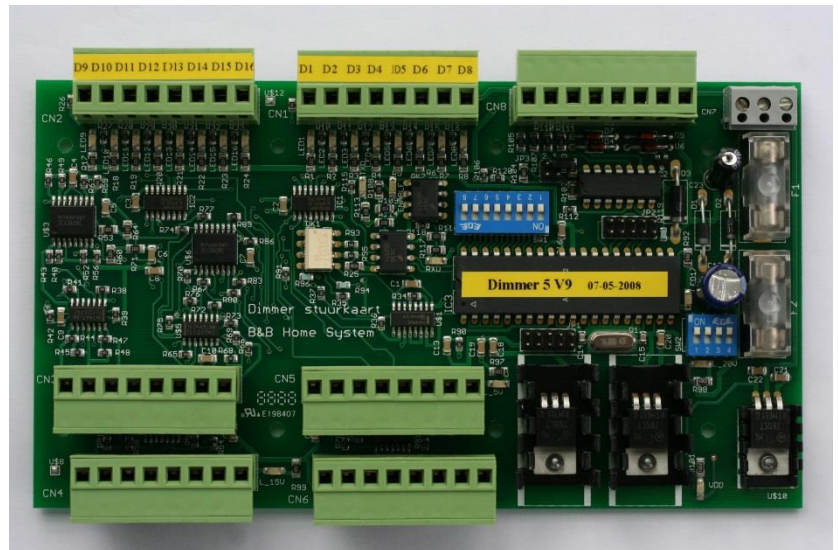
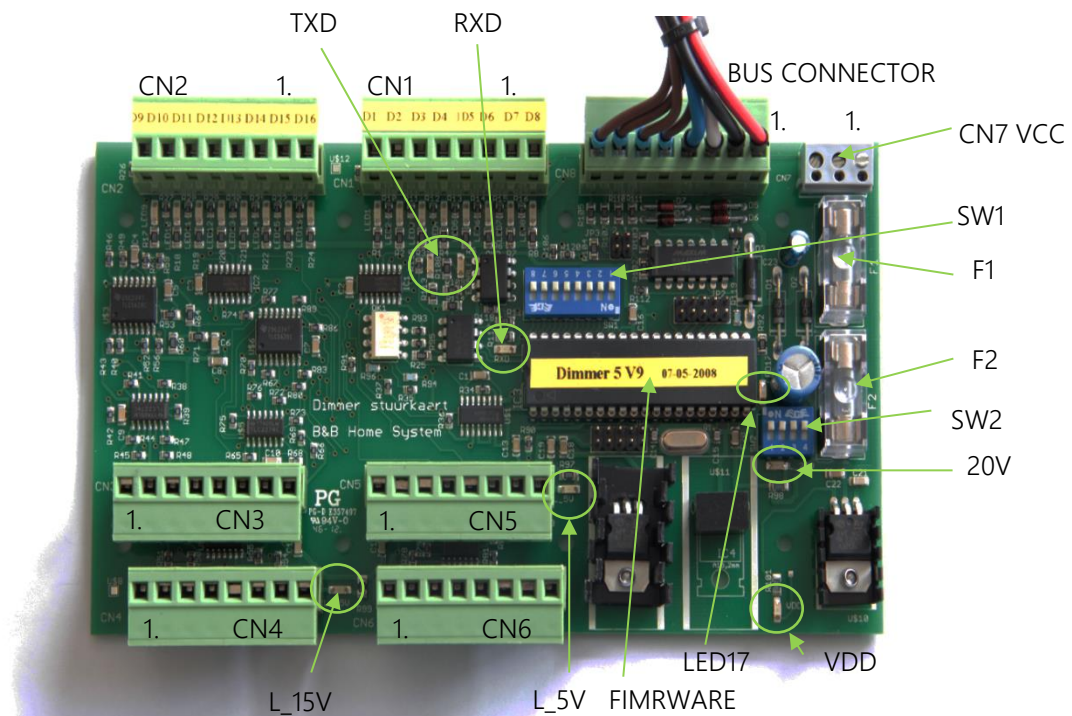

Figure 1 0-10V outputsmodule V 1.00
Figure 2 0-10V outputsmodule V1.01
- VCC 15V-20V (V 1.00, figure 1) 115mA
- VCC 15V-32V (V 1.01, figure 2) 115mA
This VCC power supply can be 15V-20V (V 1.00, figure 1) or 15V-32V (V 1.01, figure 2).